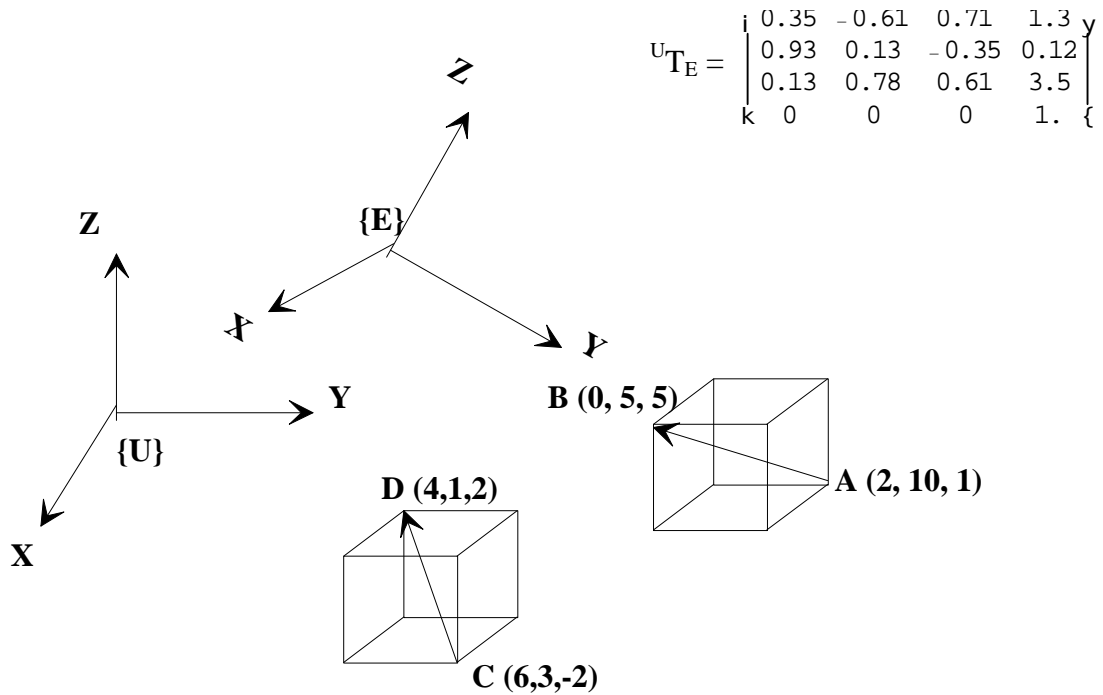

Fig. 1
1. This examination paper contains five (5) questions in 2 Sections, and comprises seven (7) pages.
- Q.1. In Figure 1, the cuboids have faces parallel to the coordinate planes of Frame U. The coordinates of the labeled corners of the cubes are with respect to Frame U. Frame E is positioned and oriented with respect to Frame U according to  ${}^U T_E$ , as given in Figure 1.
- (b) At the instant shown in Figure 1, Frame E is translating along axis AB at 2 units/sec, while axis AB is rotating about axis CD at 30 deg/sec. Determine the translational velocity of Frame E with respect to Frame U.